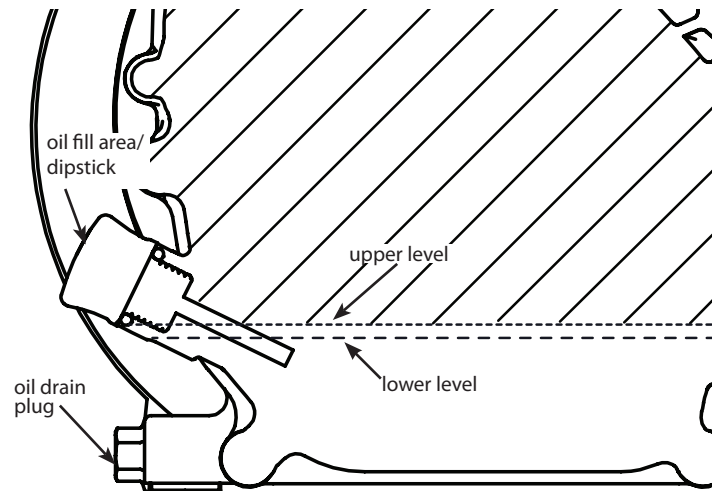

Figure 1
1. Clean around oil fill area and drain plug. **SEE FIGURE 1.**
2. Slide out dipstick and wipe clean with cloth. **SEE FIGURE 1.**
5. If oil level is below the top thread of the oil fill hole, refill to upper level. **SEE FIGURE 1.**